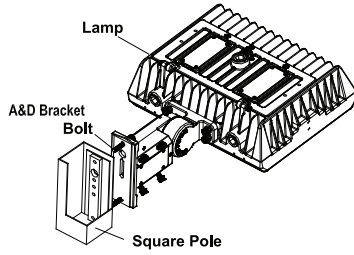
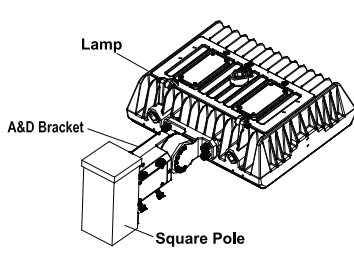
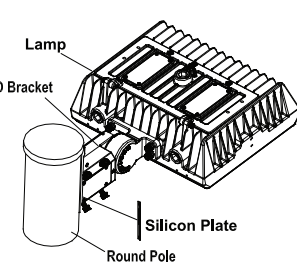

Figure 26
Figure 27
Figure 28
Step 2(for square pole): Fix A&D bracket to square pole with bolt( Figure 26、 Figure27). Same as round pole installation, please remember to use the adapting plate for round pole installation( Figure 28).
- Notice: 1、 Adjustable angle is 0-90°(Figure 26).